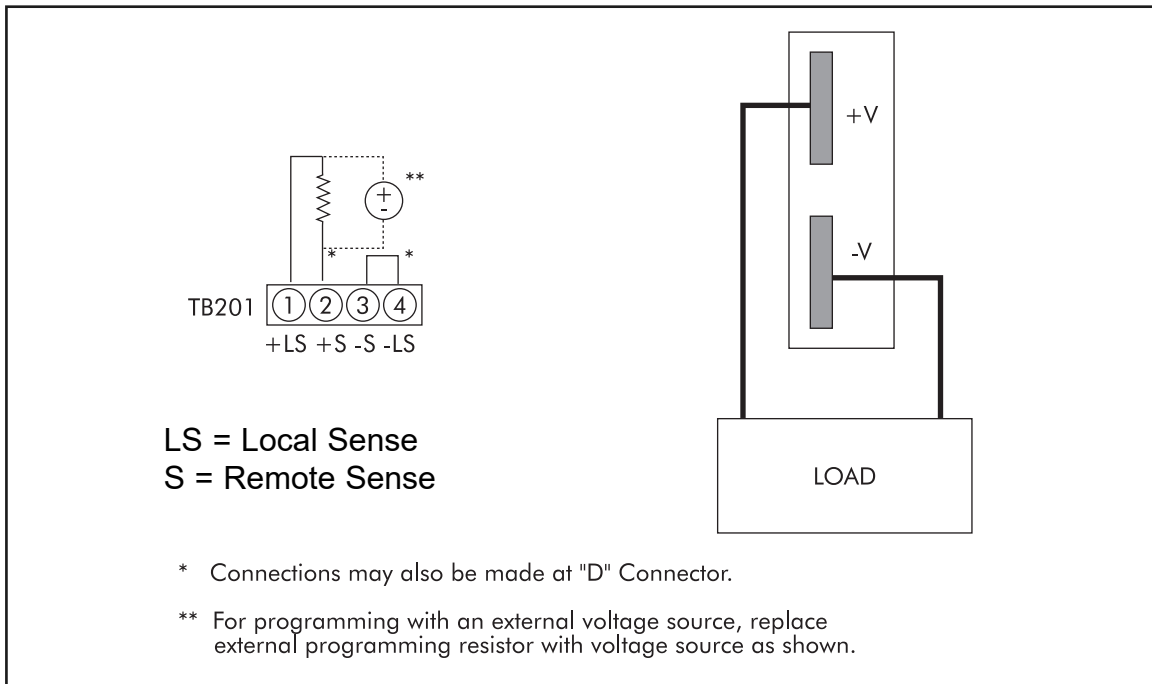

Figure 4 - Remote Voltage Control with an External Programming Resistor or Voltage Source (Local Sensing)
Remote Voltage Programming external resistor.	1000 ohms per volt for resistor connected between pins 1 and 2 on TB201 (see Figs. 4 and 5).
Remote Voltage Programming external voltage source.	Volt per volt for voltage source connected between pins 1 and 2 on TB201 (see Figs. 4 and 5).
2. With the power supply unloaded, set V_{out} to the OVP threshold desired. In cases where the desired OVP threshold exceeds the unit's adjustment range maximum of 29.4V, a programming resistor (see figures 4 & 5) will temporarily be needed to provide the higher output voltage to perform the adjustment. Once adjusted, remove the programming resistor. Alternatively, you may use an external voltage source to set the OVP threshold as shown in figures 4 & 5.